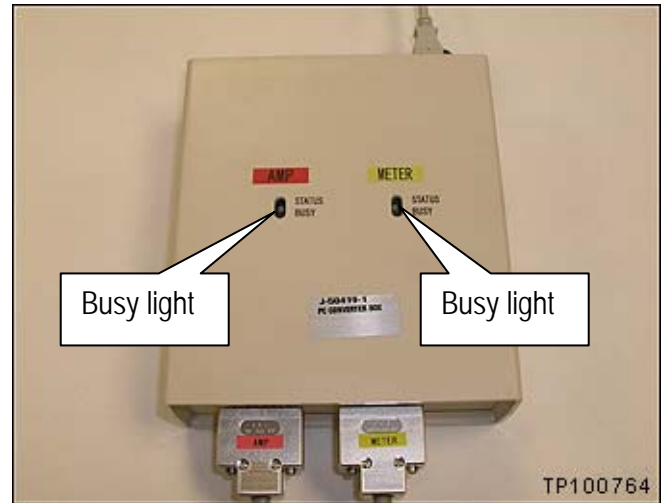

Figure 1h
15. Look at the "busy" lights on the converter box (see Figure 1h).